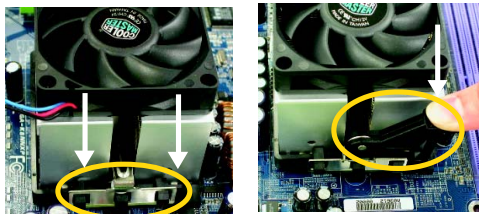

Figure 5&6 Alignment of Heatsink Assembly with Standoffs
Step 1-3. Once the thermal grease has been applied to the processor, the heatsink can be attached to the processor. Align the heatsink assembly with the support frame mating with the backer plate standoffs as shown in Figure 5&6.